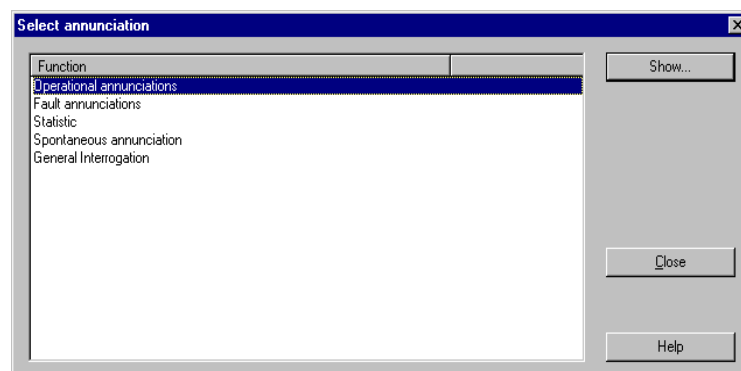

Figure 6-4 Select annunciation window in DIGSI of the bay unit
- Open the window **Select annunciations** (Figure 6-4, page 245).